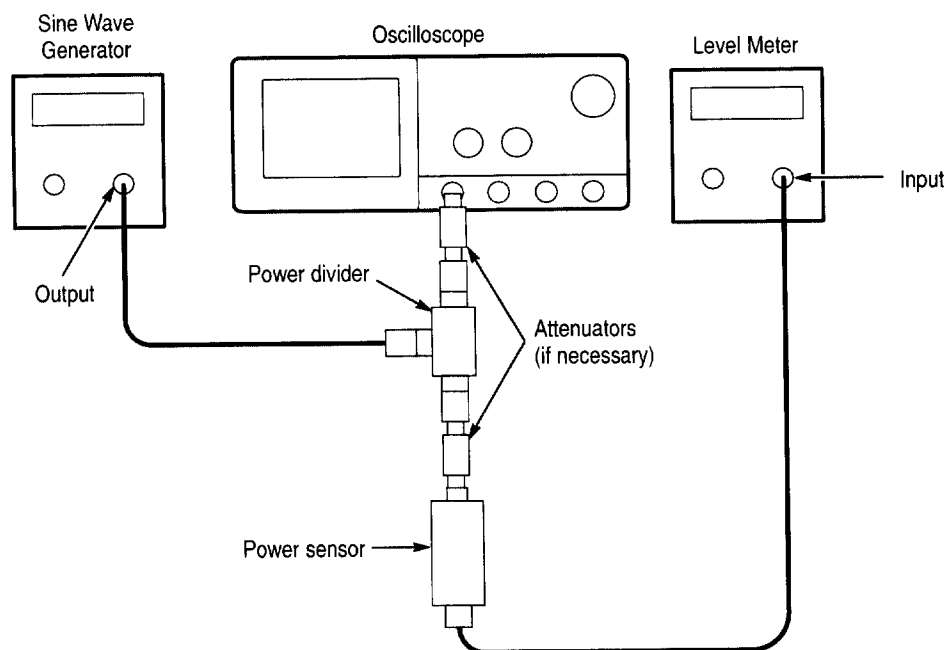

Figure 1-42: Sine wave generator leveling equipment setup
1. *Install the test hookup:* Connect the equipment as shown in Figure 1-42.